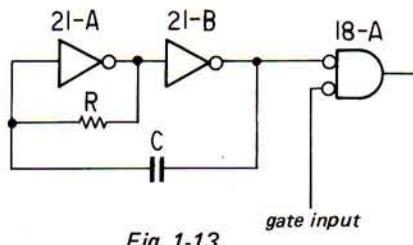

Fig. 1-13
- Fig. 1-13 shows a controllable oscillator.